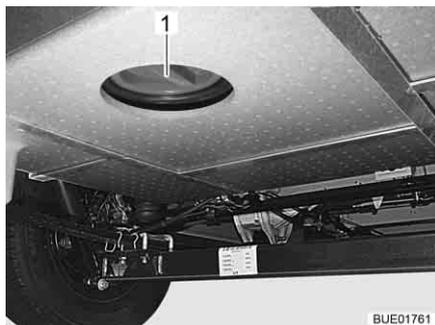

Fig. 159 Cleaning opening on the waste water tank
- Open the cleaning opening (Fig. 159,1) on the waste water tank and the drain cock.